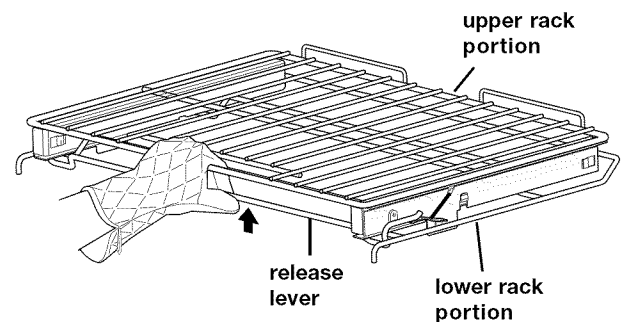

Fig. 1
**To remove** using one hand, reach through handle opening on top of glide rack and lift up on the release lever located across the lower front of the rack as shown -Fig. 1-.